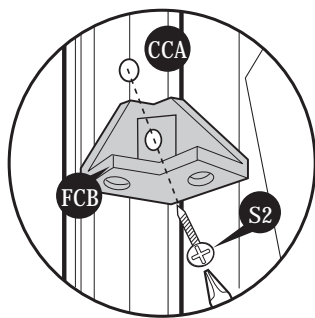
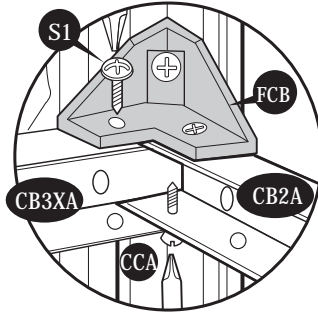

Fig.1: Use (S2) screws. Fix (FCB) fitting to (CCA). Leave it loose.
Fig.2: Use (S1) screws. Fix (CB3XA) to (FCB) and (CB2A).
13. Working from inside Continue connecting the 4 back panels (SP↑) and columns (CMA) in sequence along (B3RA) & (B3LA) base to corner column (CCA). Use (S1) screws to fix columns to base. Slide corner column (CCA) into side panel (SP↑) pushing the column into position. See (fig.1) and (fig.2).
14. Stabilize the side panels with center bands (CB3XA) assembly. Fix center band fitting (FCB) to corner column (CCA) with (S2) screws. See Fig. 1 Follow the Fig. 1, 2, 3, 4, 5 & 6.